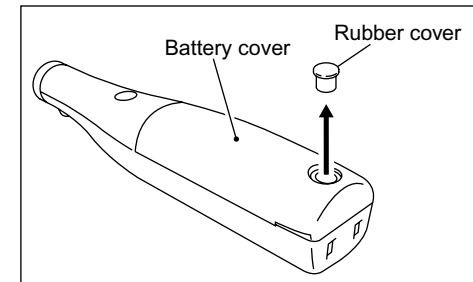

Fig.17
- ① Turn off the power of the motor handpiece.
- ② Remove the rubber cover from the battery cover with a thin flatblade screwdriver. (Fig. 17)